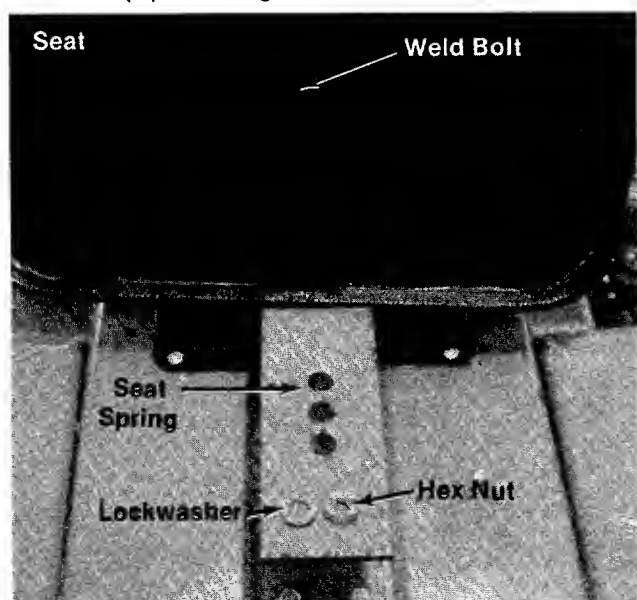

FIGURE 3. SEAT ASSEMBLY
- Step 5. Place seat on seat spring (center hole). Secure with Hex Nut (C) and Lockwasher (D). See figure 3.